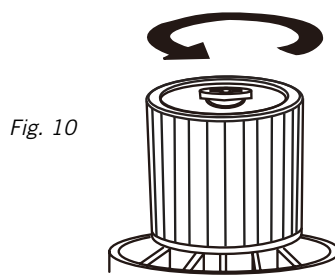

Fig. 10
18. To remove the cartridge filter, unlock and remove the filter retainer 20 by turning the retainer handle counter-clockwise. Fig. 10 & 11.